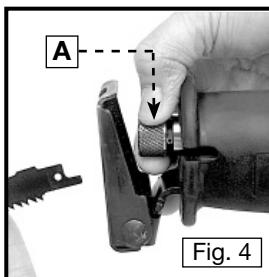

Fig. 4
3. To open the blade clamp, rotate and hold the blade release collar (A) Fig. 4 counter-clockwise (viewed from the front of the saw).